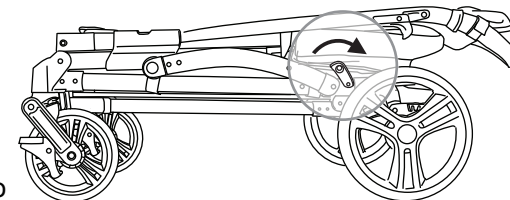

Fig. 1a
- 1) • Release the storage latch (Fig. 1a).